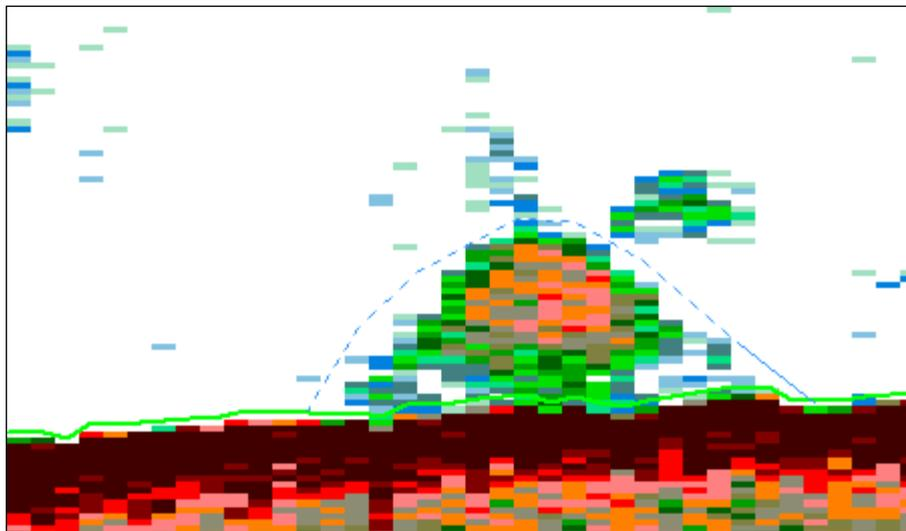

Figure 22: Echogram showing line drawing over bottom object.
31. Using the left mouse button, progressively click (or click and drag) over the artefact that appears to be just above the bottom (see Figure 22). **Note:** The line edits you make can be finer than single pings and single-sample depths.